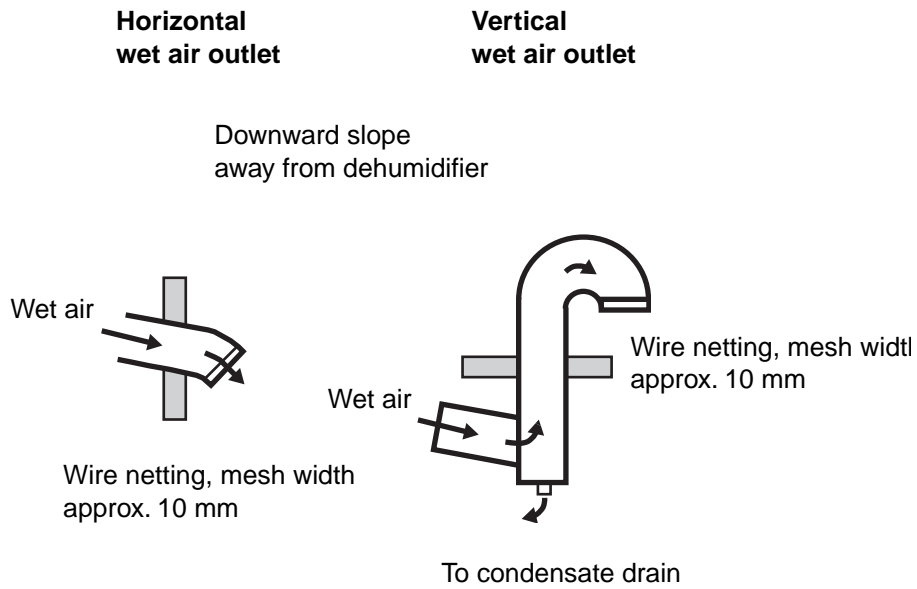

Figure 2.2 *Wet air outlet design*
- Horizontal duct-runs should be installed sloping downwards (away from the dehumidifier) to allow for condensate drainage. On the wet air outlet ducting, suitable condensate drains should be installed at low points in the ductwork. See figure 2.2, *Wet air outlet design*.
should be drilled at the lowest points in the ducting to prevent water accumulating in the duct, see figure 2.2, *Wet air outlet design*.